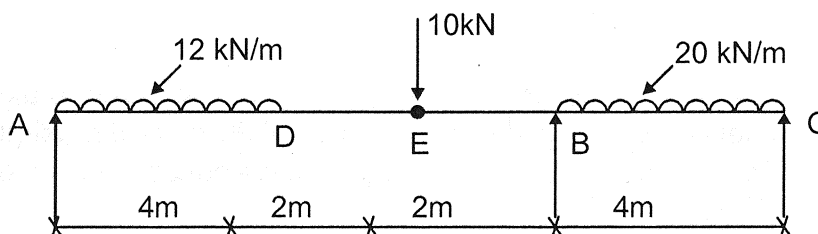

Fig. 3
- b) A beam ABC supported at A, B and C, has an internal hinge at E and is loaded as shown in figure 3 given below. Draw SFD and BMD. 8